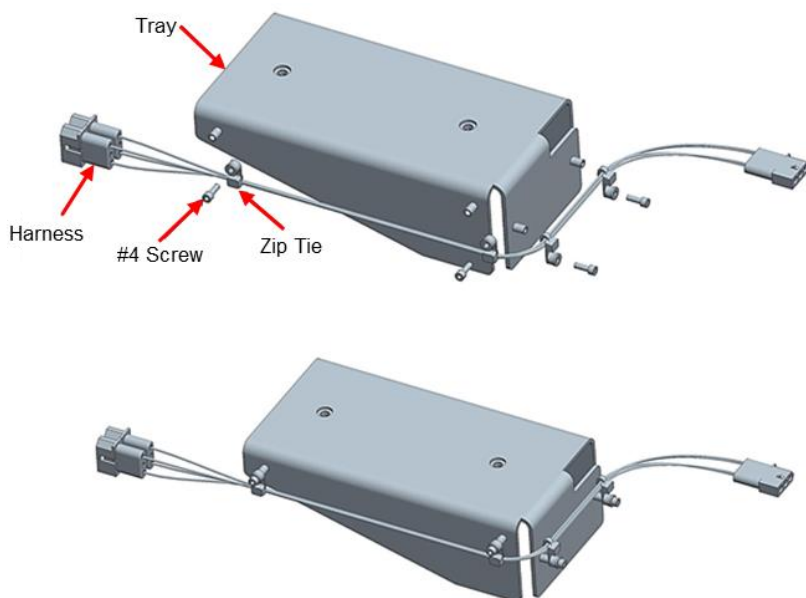

Figure 18: Battery Cable Placement
1. Attach the battery power cable to the battery bracket using provided screws and zip ties, as shown in Figure 18.